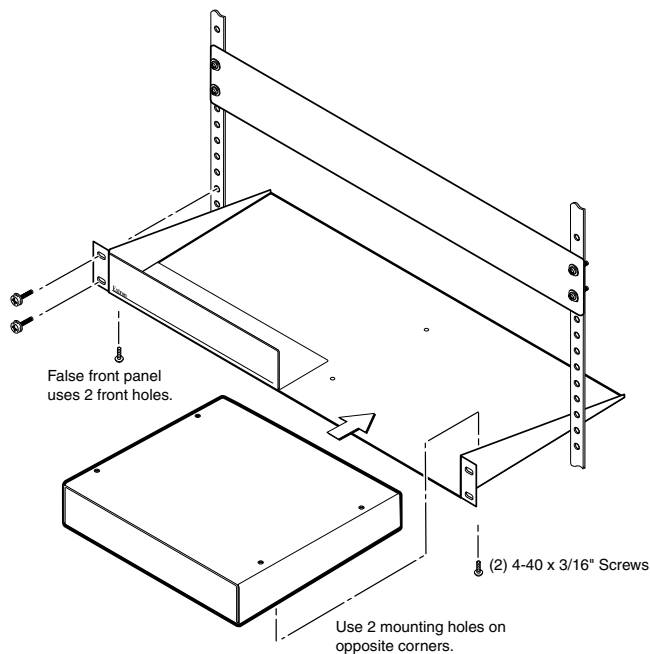

Figure 2-1 — Rack mounting a half rack device
3. Attach the DVS 304 to the rack shelf with the two provided 4-40 x 1/16" machine screws. Insert the screws from the underside of the shelf, and securely fasten them into diagonally-opposite corners (figure 2-1).
5. Attach the rack shelf to the rack using four 10-32 x 3/4" bolts (provided). Insert the bolts through #10 beveled washers, then through the holes in the rack ears and rack (figure 2-1).